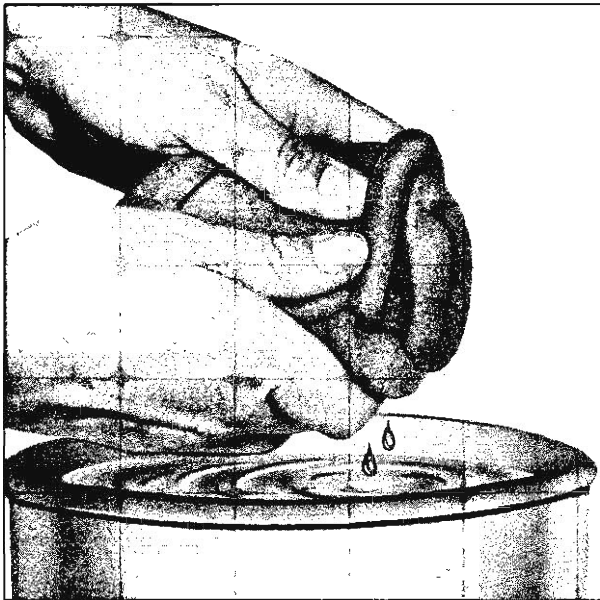

Fig. 17—Cleaning Polyurethane Element
4. Remove support screen from element and wash element in kerosene or mineral spirits; then squeeze out excess solvent (fig. 17).